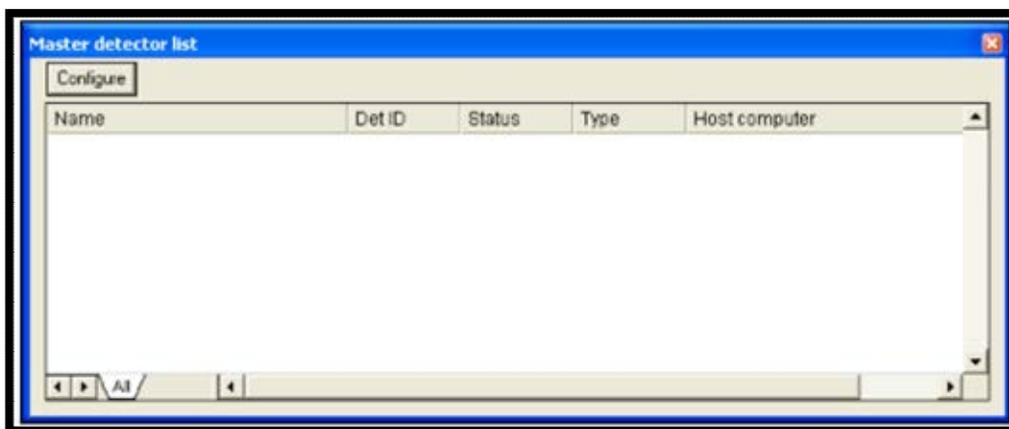

Figure 23. Master Detector List, Unpopulated
- 4) On the Detector Grid at the bottom of the screen, right-click in any square and click **Show Master List**. This will open the Master Detector List, which will be empty for first-time AlphaVision installments (Figure 23).